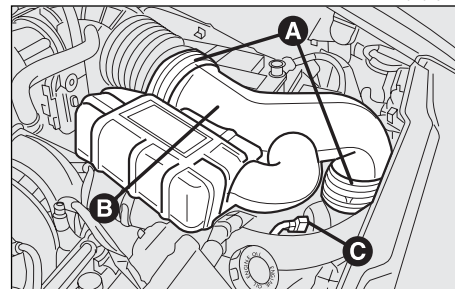

fig. 10
- slacken the clamps (**A-fig. 10**), disconnect the air flow meter electrical connection (**C**) and remove the sleeve (**B**).